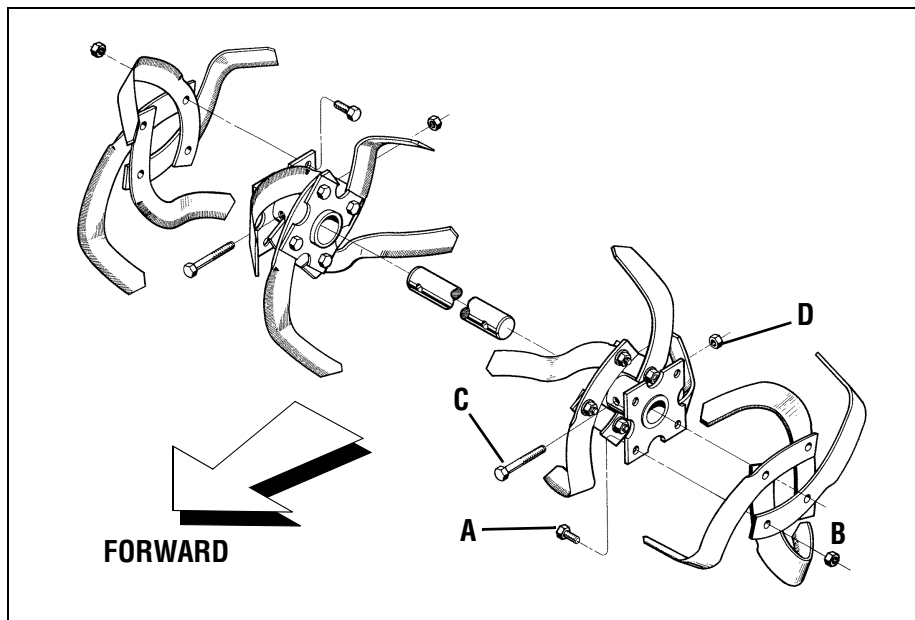

Figure 5-3: Install tines so that cutting edge of tines enter soil first when tiller moves forward.
1. With the engine shut off and the spark plug wire disconnected, remove the two screws (A, Figure 5-3) and nuts (B) that attach a single tine to a tine holder. If needed, use penetrating oil on the nuts.
2. If removing both tine assemblies, mark them "left" and "right" before removal. Remove the screw (C, Figure 5-3) and locknut (D) that secure the tine assembly to the tine shaft. If necessary, use a rubber mallet to tap the tine assembly outward off the shaft.